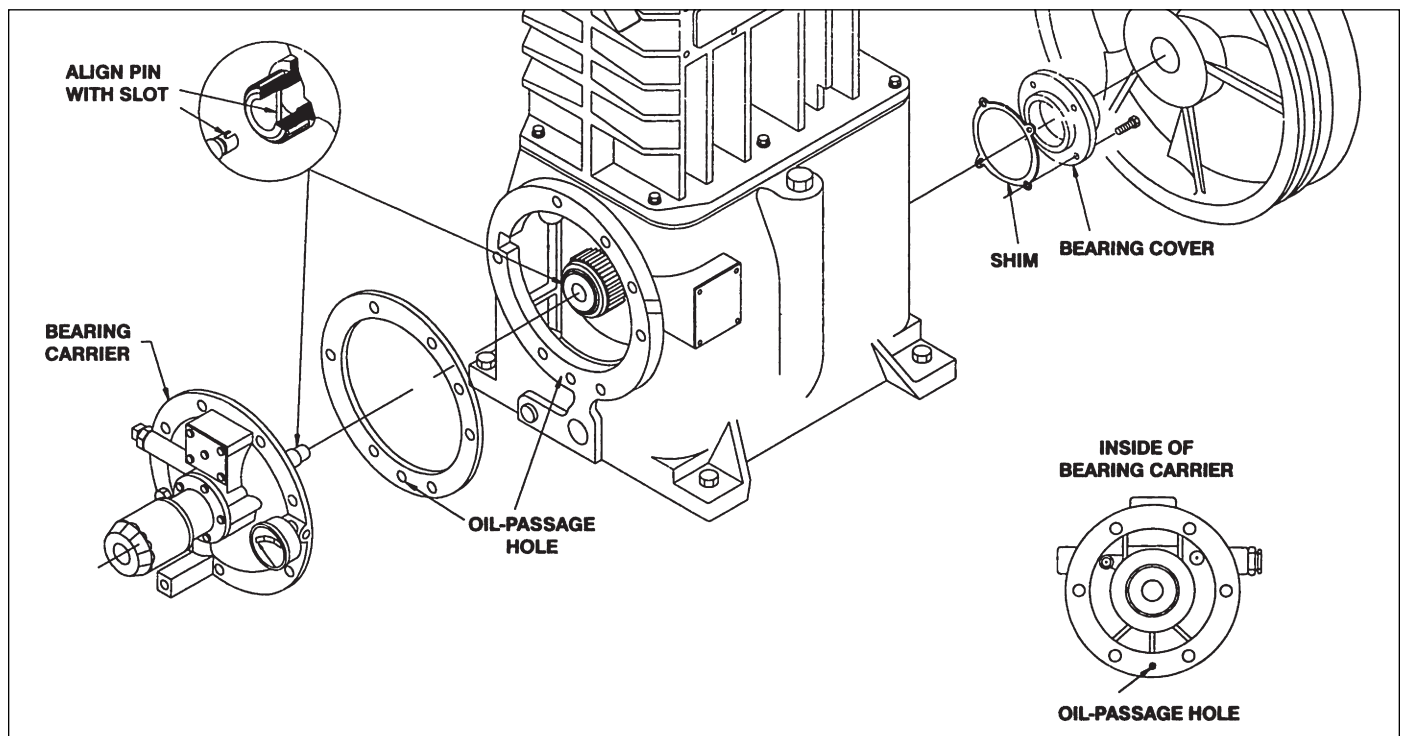

Figure 5.7: Bearing carrier replacement
2. Press the new bearings into position and reassemble the crankshaft and bearing carrier to the crankcase. When reinstalling the bearing carrier, make sure the oil pump shaft slot is aligned with the pin in the crankshaft. Make sure to install the bearing carrier gasket so the oil passage hole is not blocked (see figure 5.7).